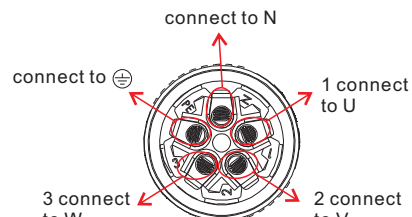

Figure 4.9 EPM3-5G-PRO connection
- For EPM3-5G-PRO installation, when using 5 core cable, connect U, V, W to pin1, 2,3 and connect N to pin4, connect PE to ⊕ (see figure 4.9);